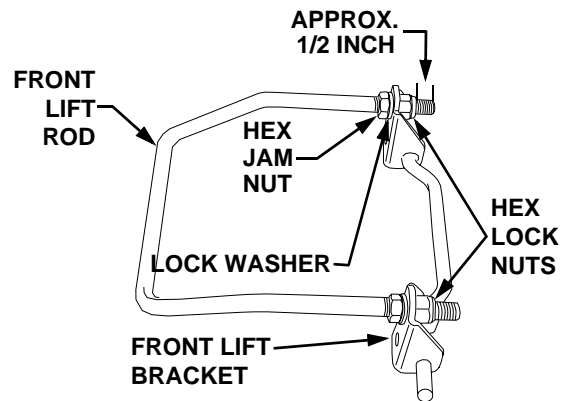

Figure 11
- Loosen the hex jam nuts on the front lift bracket/rod assembly and back off (unscrew) the hex lock nuts until approximately 1/2 inch from the ends of the threads (See Figure 11).